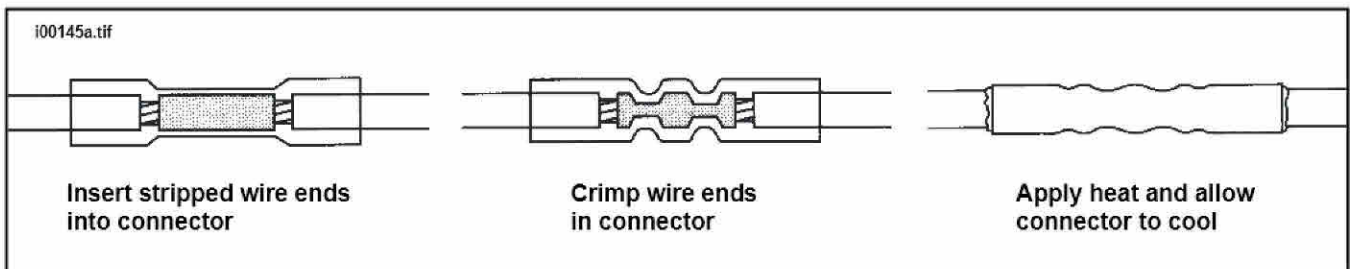

Figure 8. Install Sealed Butt Connectors
- See Figure 8. Insert wires into opposite ends of the butt splice connector. Insert wires into the connector until the stripped ends are in the metal insert. Since the size of the connectors varies with the wire gauge, reference the following chart to ensure properly sealed splices.
- See Figure 8. Apply heat from the center of the crimp out to each end until the meltable sealant exudes out both ends of the connector.